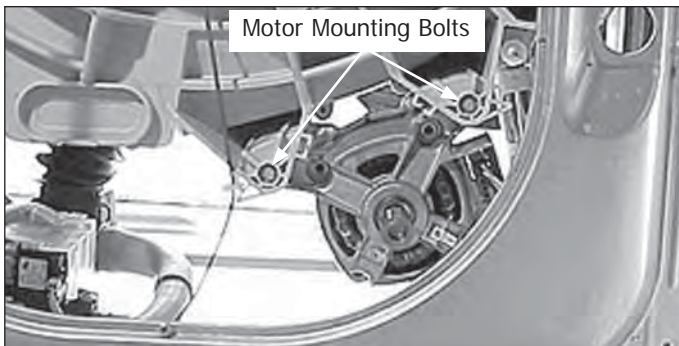

Figure 4-88.
3. Using a 5/16" socket remove the (4) bolts, (2) in the front and (2) in the rear, that hold the motor to the outer tub. (See Figure 4-88 & 4-89)